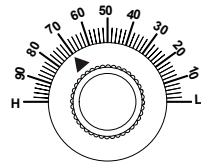

Figure 4
4. Based on the previous experience, 70% (Figure 4) adjustment position can be used to most of mediums (Need to do INITIAL CALIBRATION first).